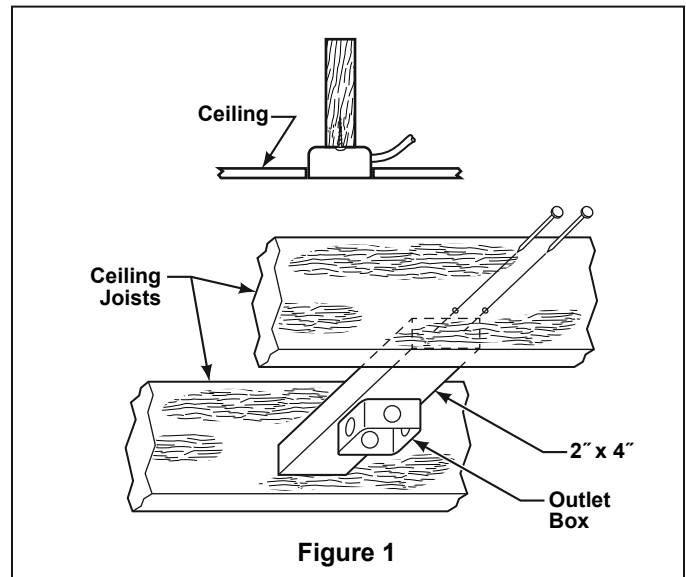

Figure 1
NOTE: If you are uncertain of part description, refer to exploded view illustration. (Figure 1, page 13)
Your new ceiling fan will require a grounded electrical supply line of 120 volts AC, 60 Hz, 15 amp circuit. The outlet box must be securely anchored and capable of withstanding a load of at least 50 lbs. **Figure 1** depicts different structural configurations that may be used for mounting the outlet box.
2. Remove the Hanger Ball by loosening the setscrew in the Hanger Ball until the ball falls freely down the Downrod. (Figure 1) Remove the Pin from the Downrod, then remove the Hanger Ball. Retain the Pin and Hanger Ball for reinstallation in Step 6.